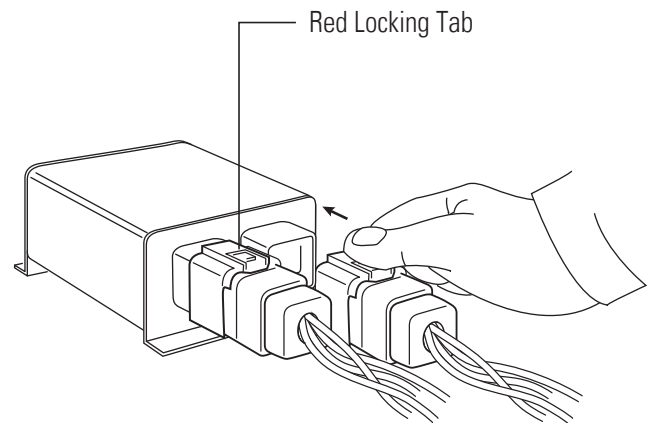

Figure 4
10. Verify vehicle power is disconnected and connect Roll Sensor to cab harness. Make sure connectors snap into position. Push red locking tab forward to lock connectors. See **FIGURE 4**. Gently tug on connector to verify locking. **DO NOT TUG ON WIRES, ONLY CONNECTOR.**